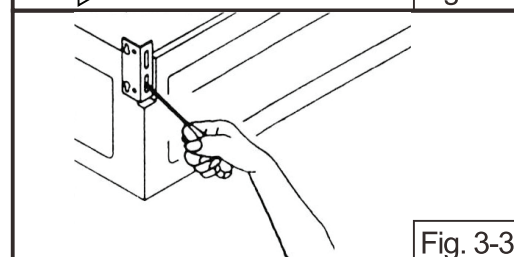

Fig. 3-3
- Adjust the hangers on the back of the appliance and hang the appliance to the wall, tightly screw the nut of sleeve anchor. (Fig. 3-3)